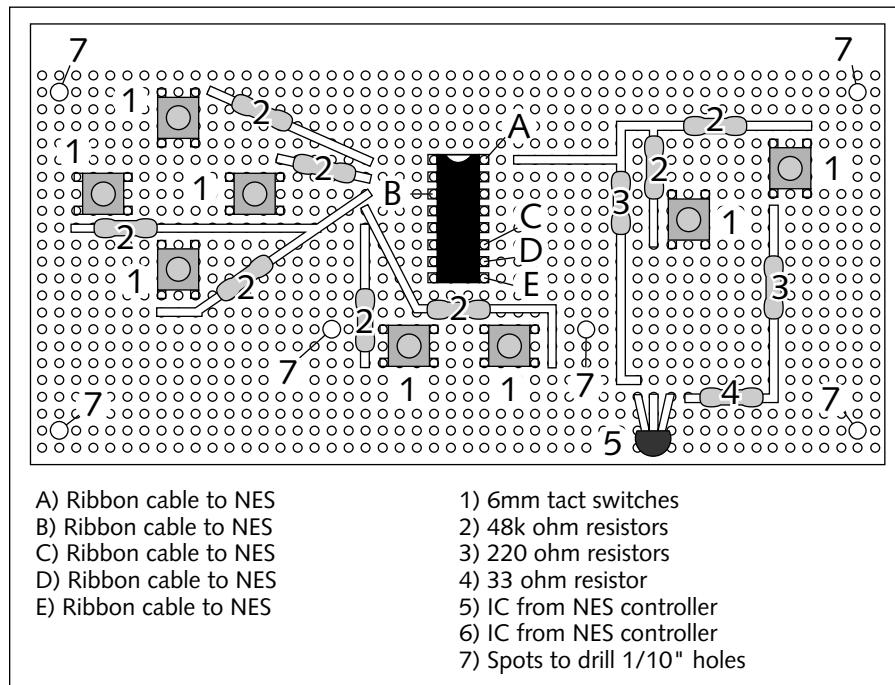

FIGURE 8-27: Where to place components on the front of the control board.
4. Figure 8-27 is a drawing of the sliced-down PC board and where components should be placed on it. Install the parts as described in the following.
10. Use a 1/8" drill bit to drill the holes marked as spots "7" in Figure 8-27.